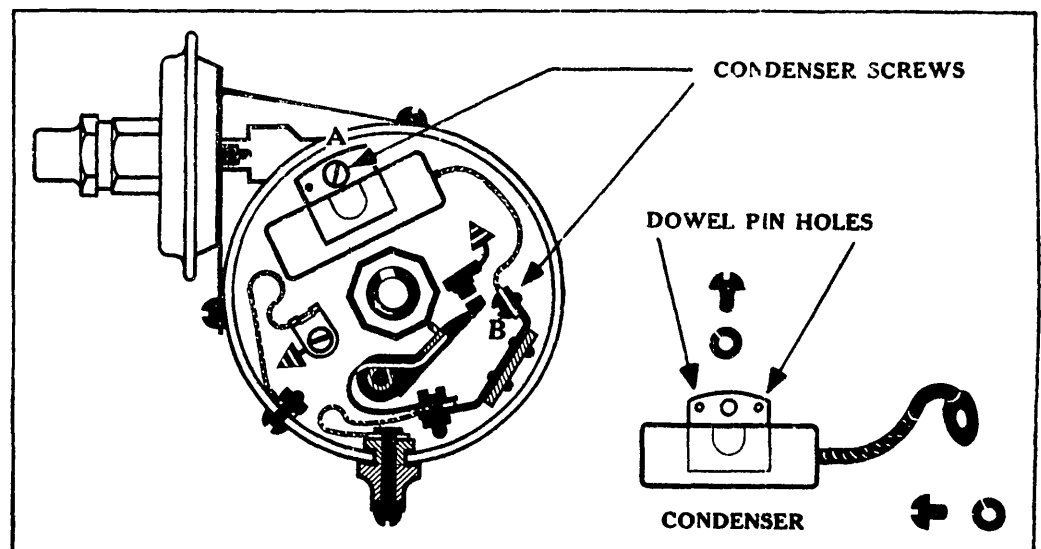

Fig. 3
3. Remove the condenser hold-down screw ("A", Fig. 3) and the condenser lead screw ("B", Fig. 3), and then remove condenser from the distributor.